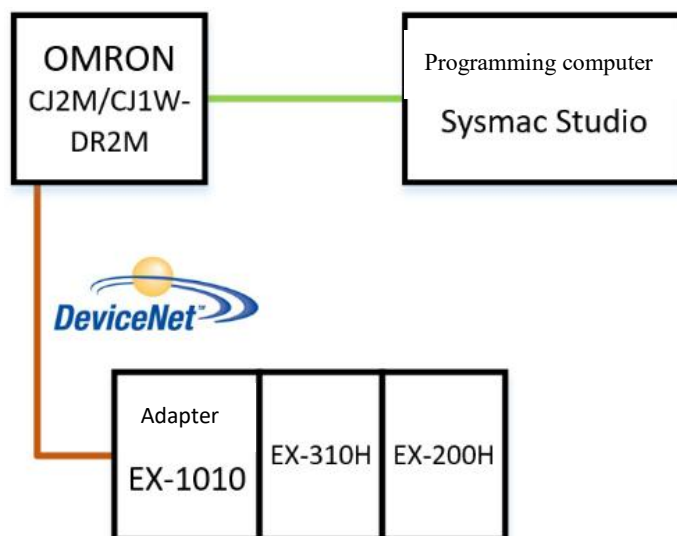

Figure 5-3-1 Communication connection diagram
1. Communication connection diagram, as shown in FIG. 5-3-1.